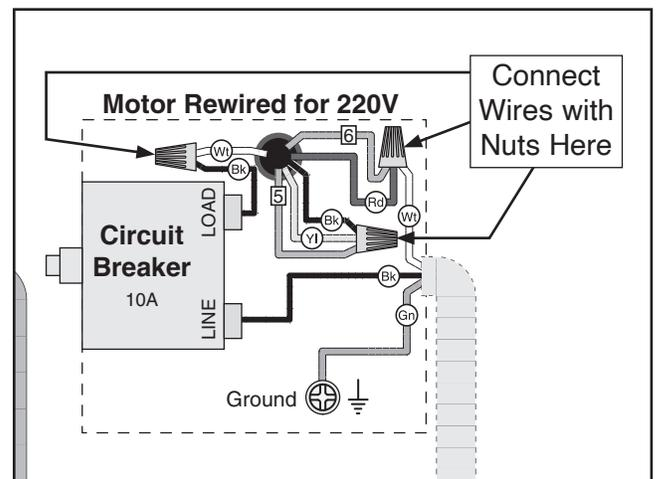

Figure 58. Motor rewired for 220V.
5. Use wire nuts to connect wires as indicated in **Figure 58**. Twist wire nuts onto their respective wires and wrap them with electrical tape so they will not come loose during operation.